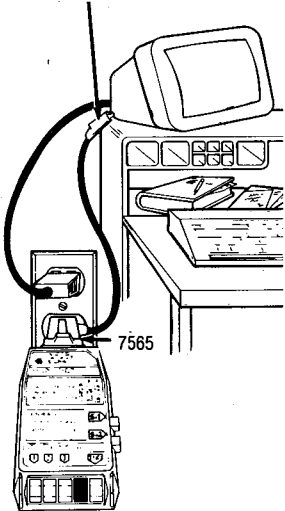

Figure 29
Step 2. Attach the clip lead of the 7565 Probe to bare metal on the equipment frame or case (Fig. 29).